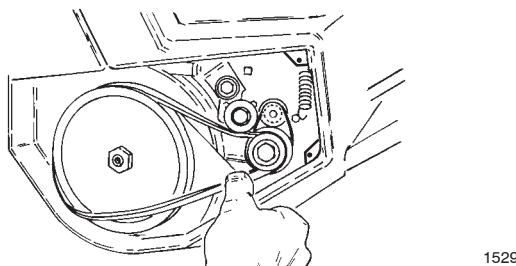

Figure 21
- Rotate the rotor with your left hand while sliding the belt onto the large pulley with your right hand (Fig. 21).
- Slip the large belt over the small pulley (Fig. 21). Refer to step 4 through 8 of Replacing the Large Belt on page 10.